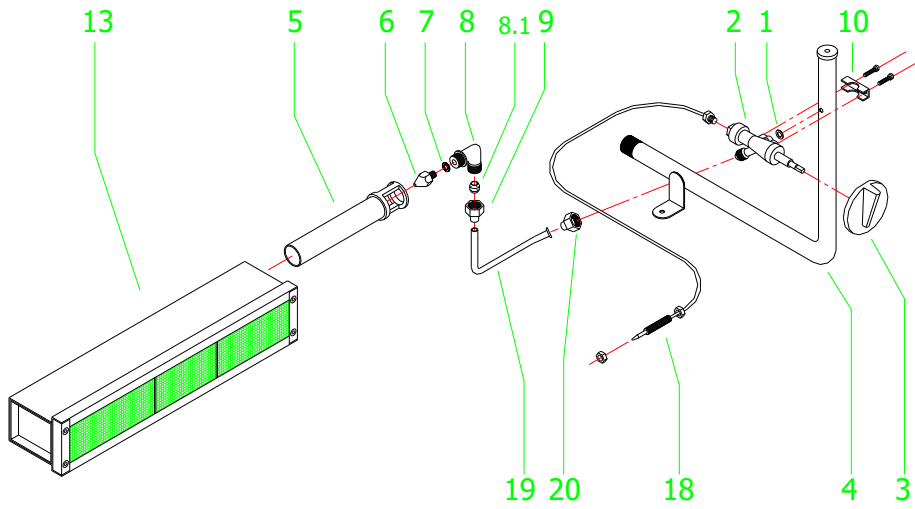

Fig 11
- Remove the tube (12) and thermocouple (13) (See Fig. 11) corresponding to the valve of the burner you wish to change by loosening the nuts (11) and (14).
- Pull the elbow piece (8) outwards to remove the Venturi burner. Totally loosen the screws fastening the burner (16) to its support (17).